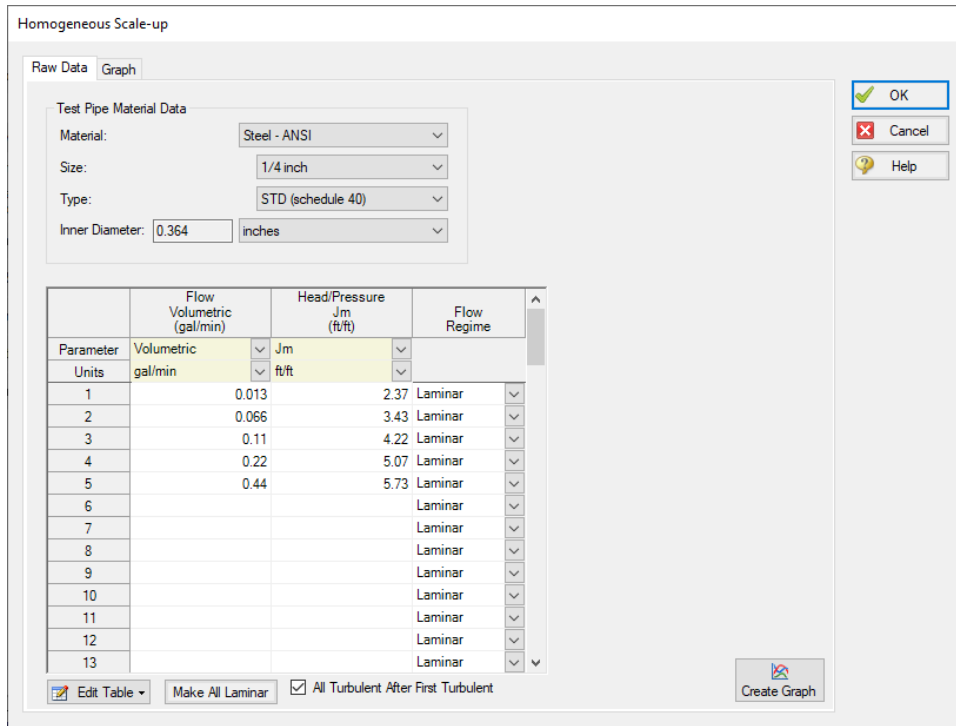

Figure 9: Homogeneous Scale-up window with test data input
8. For the Homogeneous Scale-up scenario, use the test data from the Excel spreadsheet. Make sure to enter the data as Volumetric in gal/min and Jm in ft/ft. All 5 data points are laminar flow, as shown in Figure 9.